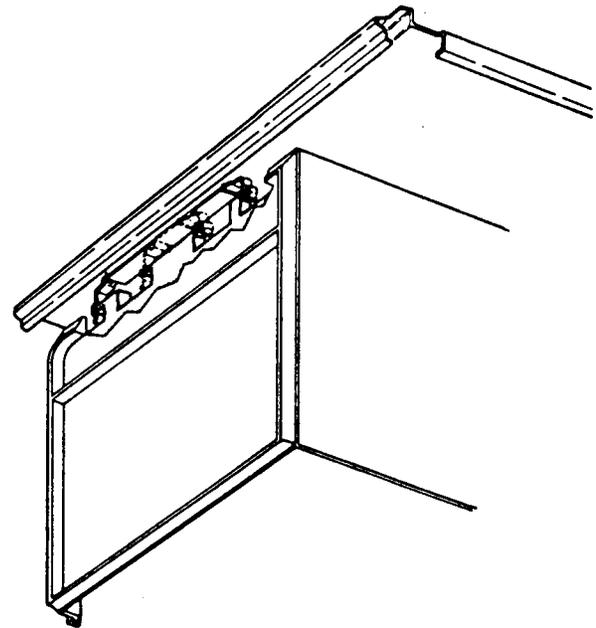

Figure 7 Ice maker enclosure hooked to shelf clip
- Attach the ice maker enclosure to the clip on the shelf (see figure 7).